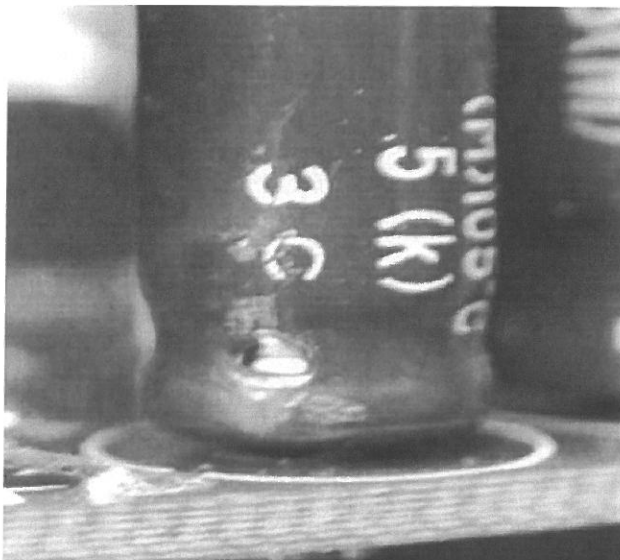

Figure 9-24
- Damaged area shows evidence of increasing, for instance from cracks, sharp corners, brittle material from heat, etc., Figure 9-24.